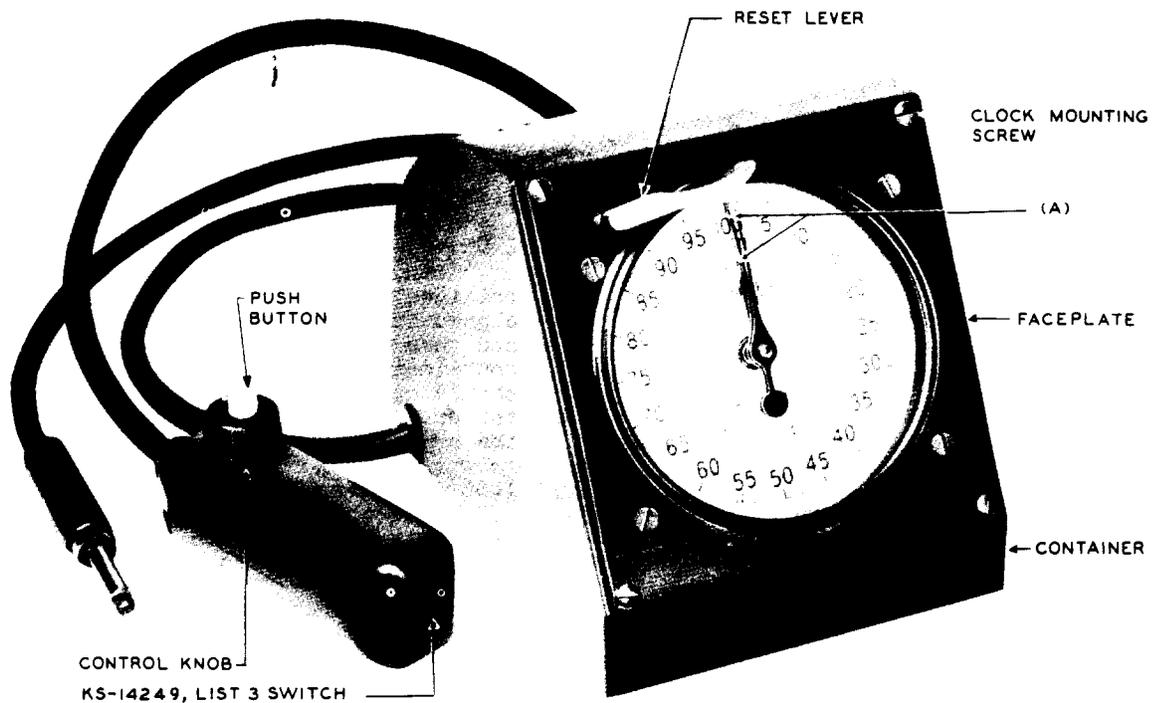

FIG. 2 - KS-8259 ELECTRIC STOP CLOCK EQUIPPED WITH KS-14249, LIST 3 SWITCH
(h) Fig. 2 (A) - When the hands restore to normal, the elapsed-time and split-second hands shall point to the graduated line indicating 100 on the seconds dial and the totalizing hand shall point to the graduated line indicating 30 on the 100 seconds dial.